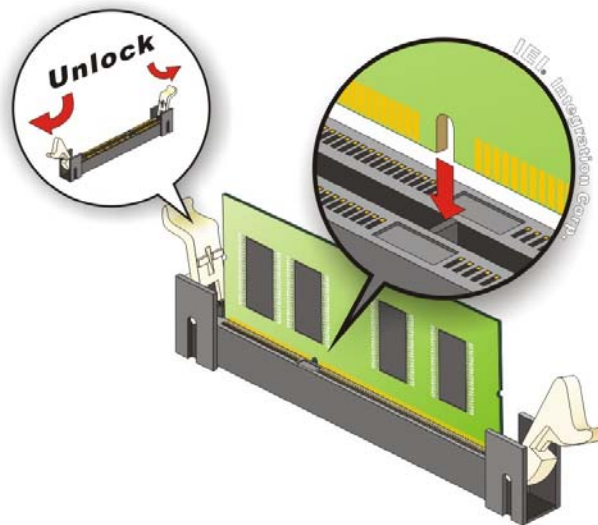

Figure 4-4: SO-DIMM Installation
To install a SO-DIMM, please follow the steps below and refer to **Figure 4-4**.
- Step 1: Open the SO-DIMM socket handles.** Open the two handles outwards as far as they can. See **Figure 4-4**.
- Step 2: Align the SO-DIMM with the socket.** Align the SO-DIMM so the notch on the memory lines up with the notch on the memory socket. See **Figure 4-4**.
- Step 3: Insert the SO-DIMM.** Once aligned, press down until the SO-DIMM is properly seated. Clip the two handles into place. See **Figure 4-4**.